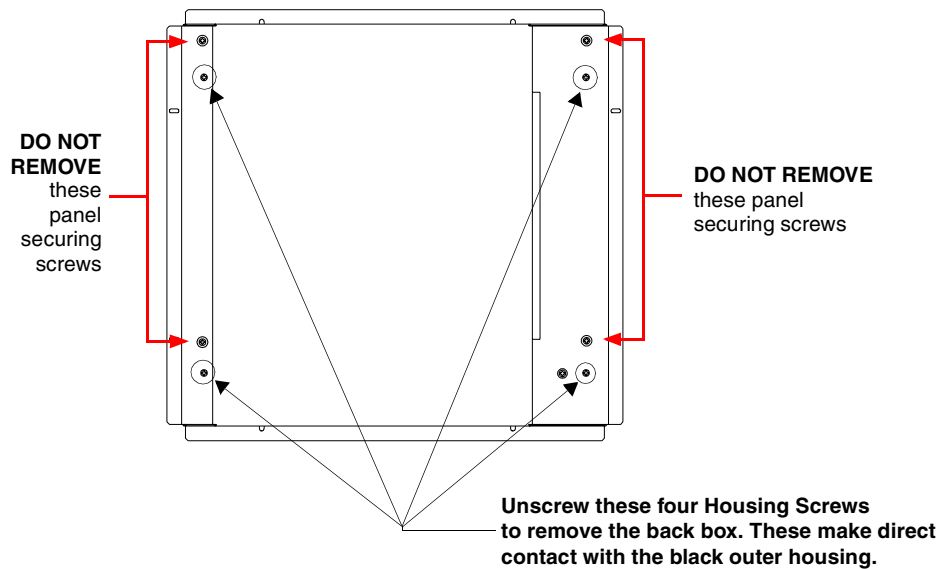

FIG. 22 Location of the securing screws on an NXD panel
2. Place the LCD facedown onto a soft cloth to expose the under-side of the unit (FIG. 22). This step helps prevent scratching of the LCD.
5. Unscrew the four pan-head Housing Screws from the rear of the NXD unit (FIG. 22) and gently remove the outer housing. These four screws secure the back box to the internal panel casing.